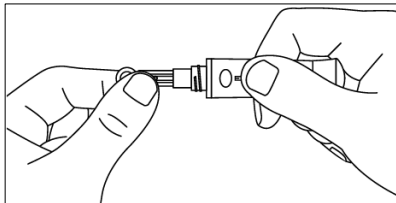

Fig 5.30
**Step 2:** Insert a sterile lancet into the lancet holder and push it until stop in the lancet holder (Ref Fig 5.30)